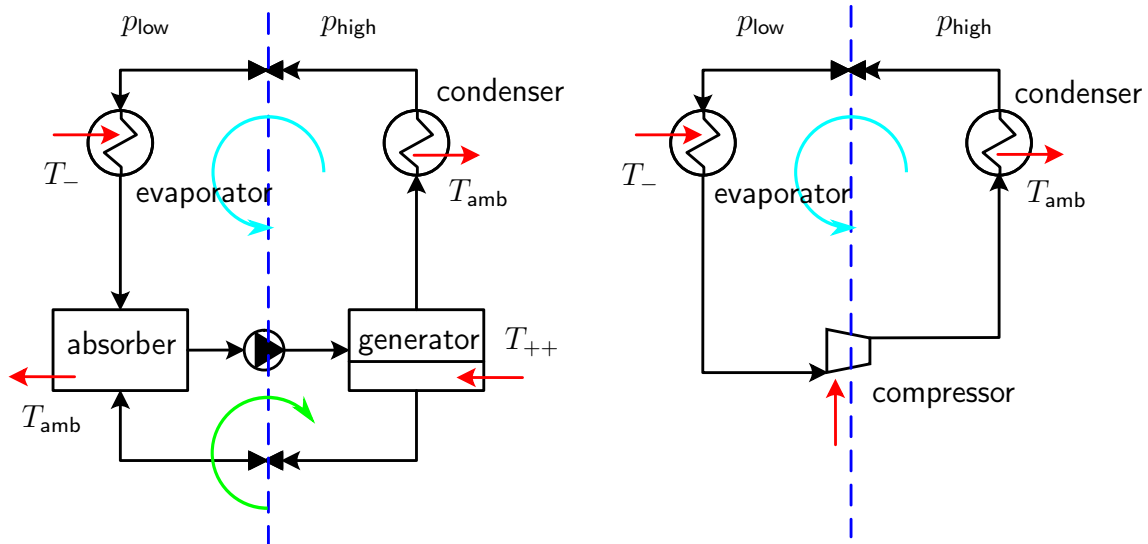

Figure 1: Comparison of an absorption heat pump (leftside) and compressor heat pump (rightside).
1. Discuss the differences and the similarities of a compressor heat pump and an absorption heat pump, using a schematic. As shown in Figure 1 the refrigerant cycle (cyan) is the